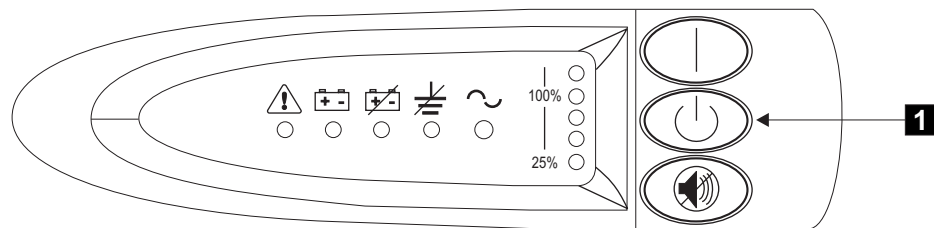

Figure 160. 2145 uninterruptible power supply front panel assembly
1. At the front of the 2145 UPS, press and hold the off button **1** for approximately five seconds or until the long beep stops. See Figure 160.